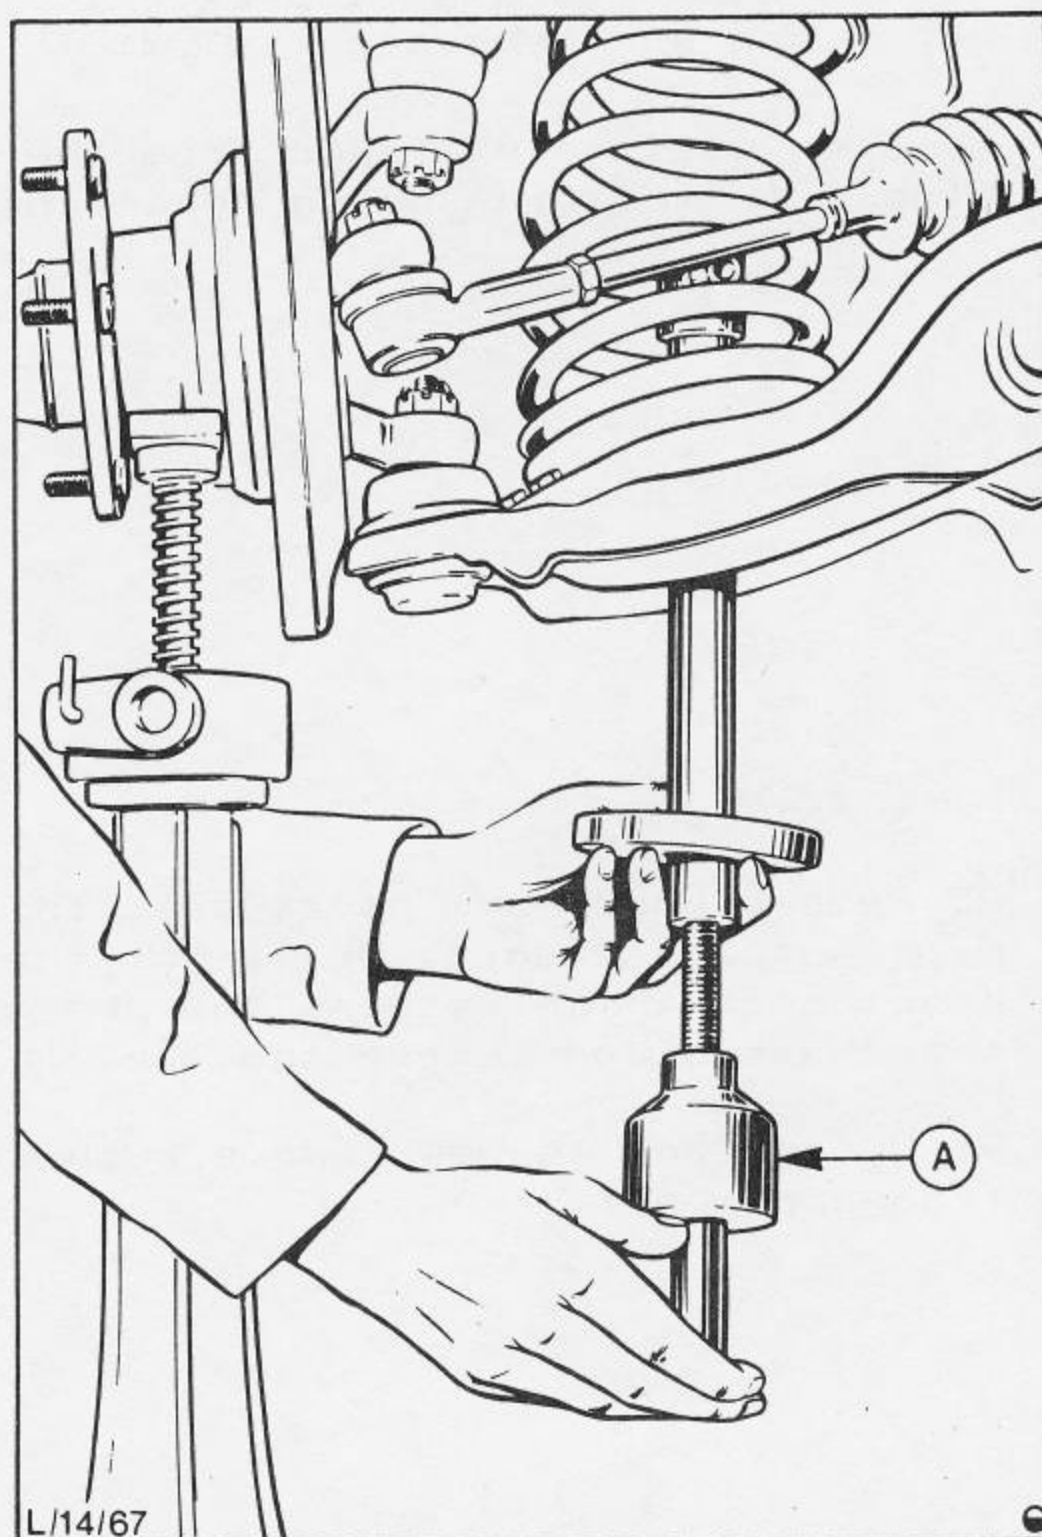

Fig.39 Positioning Tool No.14-006 'A' inside spring.
4. Place spring compressor in position through centre of lower wishbone and spring, locating top of compressor through shock absorber top mounting turret. Fig.39